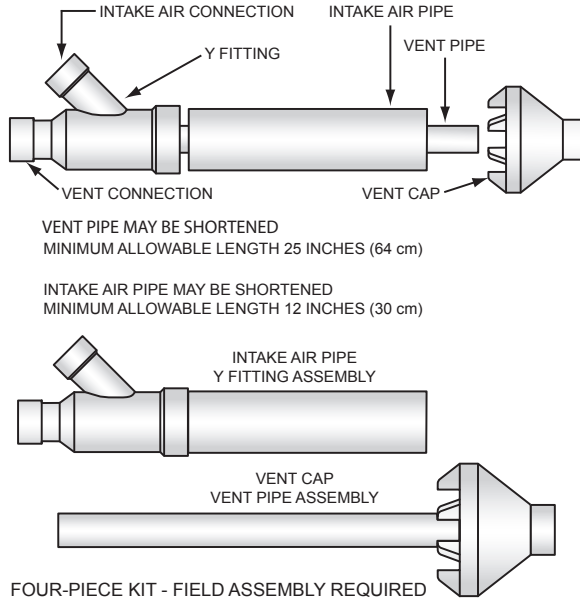
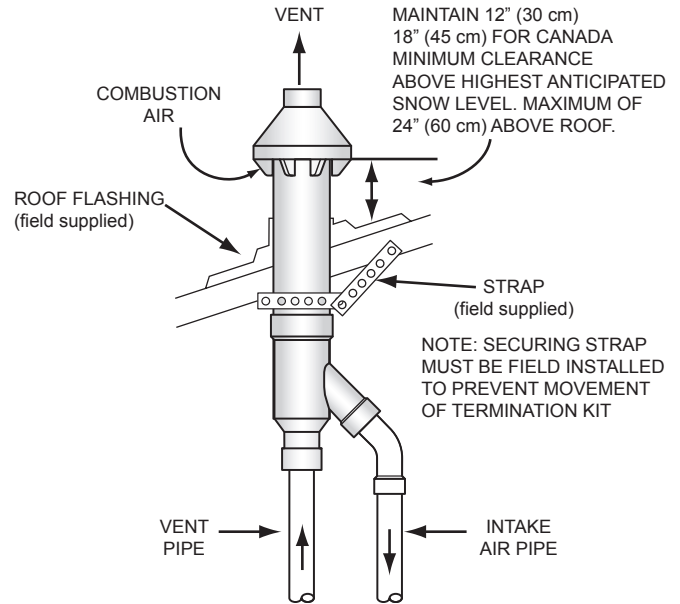
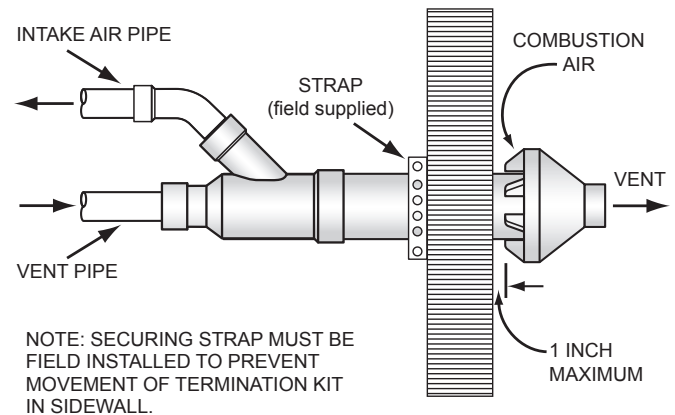

Figure 28. Concentric Termination Kit
Figure 29. Concentric Termination - Vertical Installation
Figure 30. Concentric Termination - Side-Wall Installation
3. When installing a concentric termination vertically through the roof; ensure that all exterior vertical clearance requirements for the concentric termination, shown in *Figure 29* (page 31) are being maintained. These clearances and those cited by local and national codes must be maintained.
- See *Figure 28* (page 31) for the minimum lengths allowed for the concentric termination.
Assemble and install the concentric termination. Refer to *Figure 28*, *Figure 29* and *Figure 30* for these instructions: